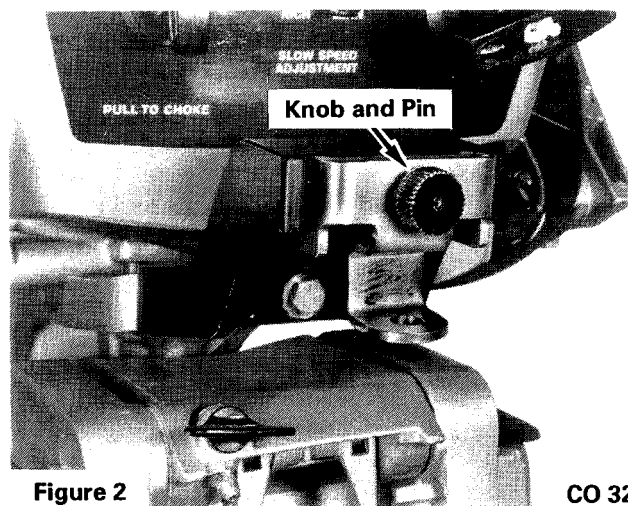

Figure 2
4. Attaching steering adaptor to steering connector, compress spring with knob and pin and rotate 90° and release. Make sure pin is secure in groove. See Figure 2.